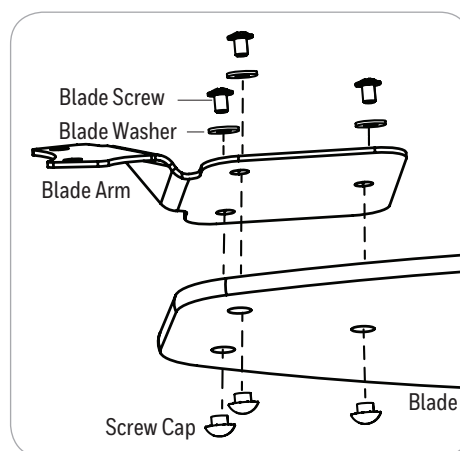

Figure 5.5
5. Attach the blades to the blade arms using the blade screws, blade washers and screw caps (Figure 5.5).